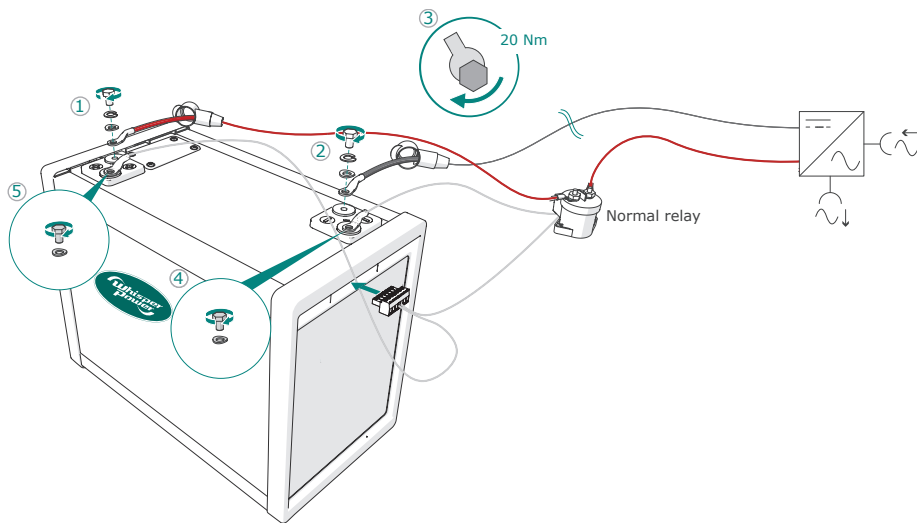

Figure 12. Securing the terminal covers.
2. Connect the + terminal of the battery to the - or A1 terminal of the relay (Figure 12).
4. Connect the - terminal of the battery. Do not connect the - terminal first as this may lead to short circuits (Figure 12).